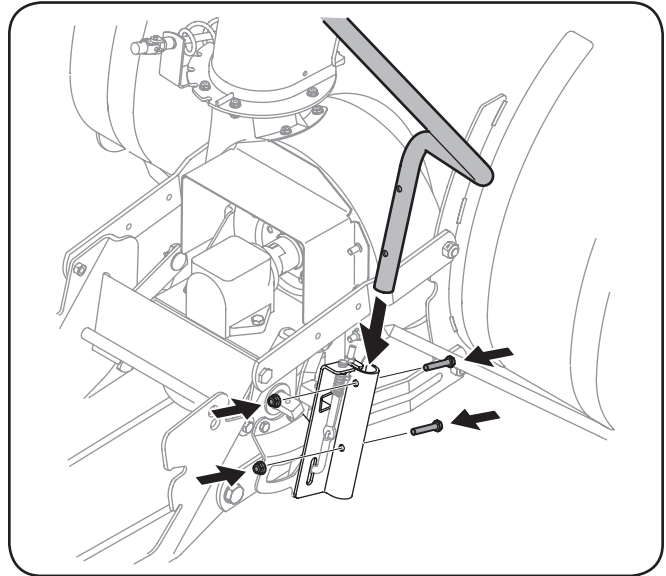

Figure 3-17
1. Attach lift handle to lift bracket on the right side of auger housing assembly with two hex screws and two flange nuts provided. See Figure 3-17.